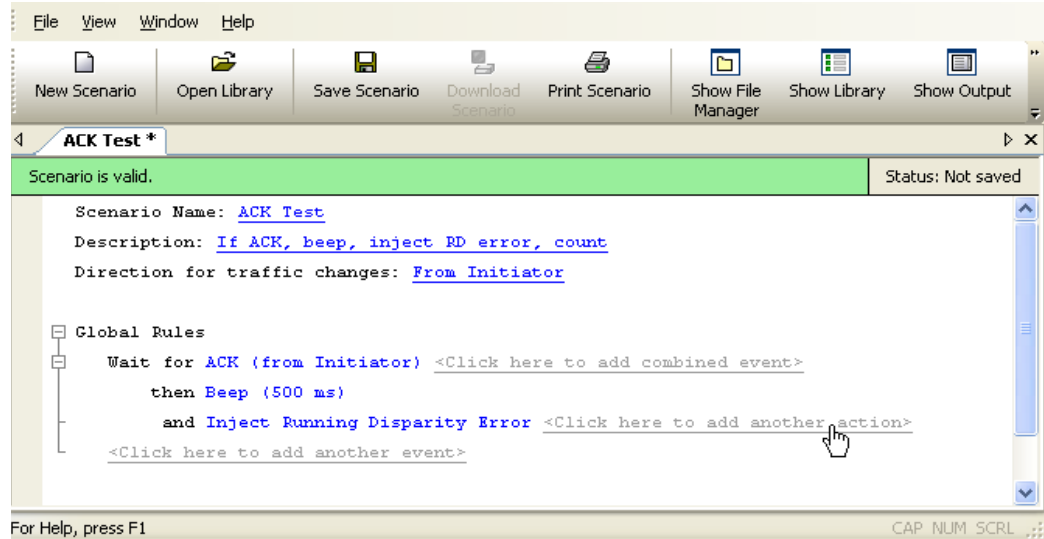

Figure 66 Example 5: Entering the Third Action
Step 5 Click on the **add another action** prompt to add a third action (Figure 66).